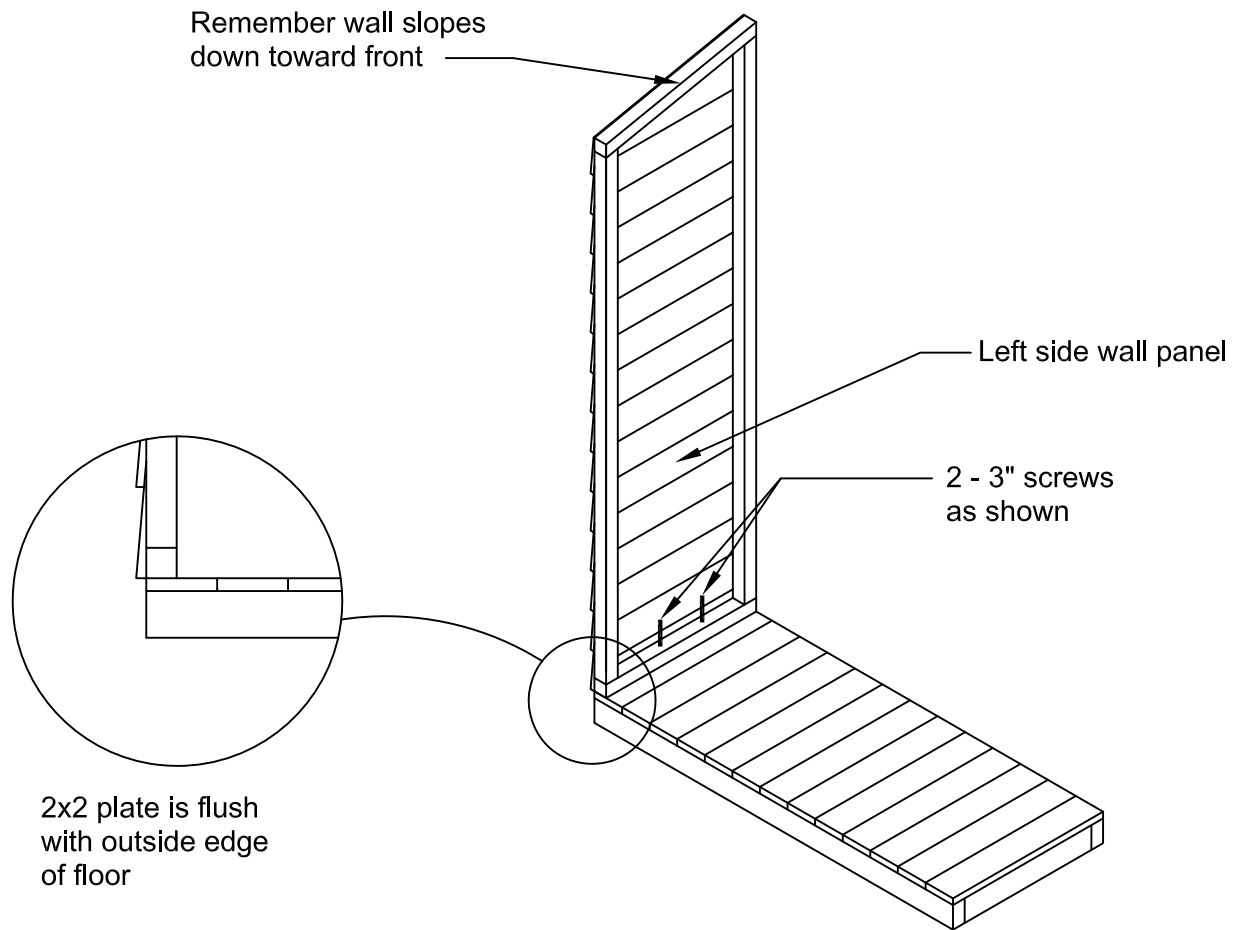

Figure 2
2. Take the left sidewall panel and position it on the floor so that the bottom 2x2 wall plate is flush with the outside, front and rear of the decking edges (see Figure 2). Secure the floor with two 3" screws as shown..